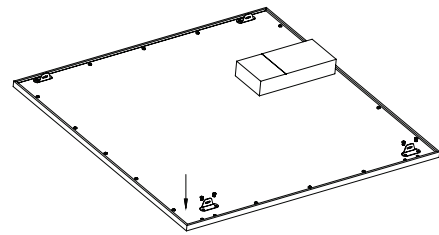

Fig. 6
1. Replace the existing earthquake tabs with the provided brackets which are used for fixing adjustable cables. (Fig. 6)